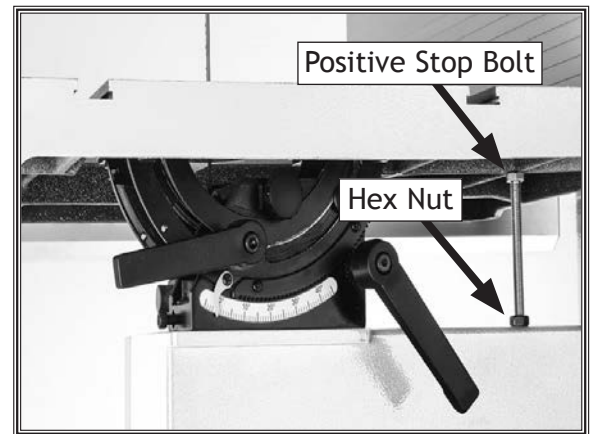

Figure 62. Location of positive stop bolt and hex nut.
4. Raise guide post and place a machinist's square on table next to side of blade, as illustrated in **Figure 62**. Adjust table square with blade, then secure it with table tilt lock lever.